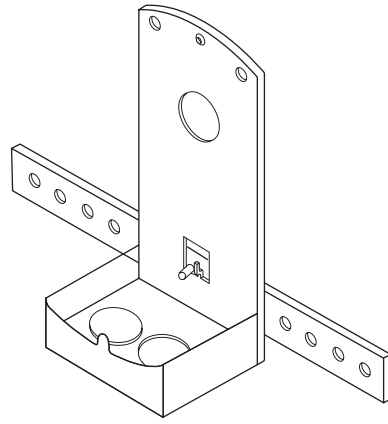

Figure-7 Adapter with Actuator Mounting Bracket.
6. Mount the actuator and adapter following the installation instructions that come with the actuator. The actuator mounting bracket (supplied with the actuator) fits between the guides in the lower back of the conduit adapter (Figure-7).